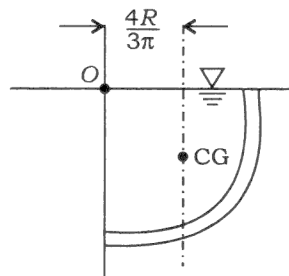

Fig. 8(c)
- (c) Find the magnitude and direction of the resultant force of water on the quadrant gate shown in Fig. 8(c) below. The principal dimensions of the gate are as follows :